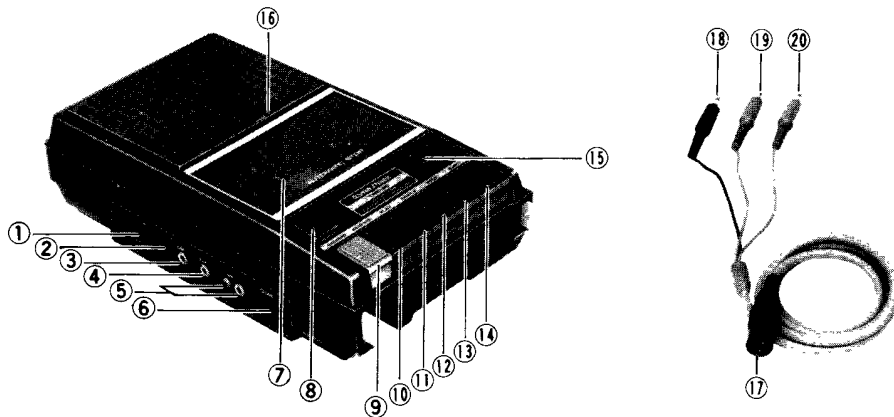

Figure 1. Cassette Unit and Computer Cable.
Using the computer cable supplied, connect the cassette unit to your computer's TAPE jack. The five-pin DIN plug (17) goes to the computer; the remaining three plugs (18) (19) (20) go to the cassette unit, as explained in Figure 1 on page 3.